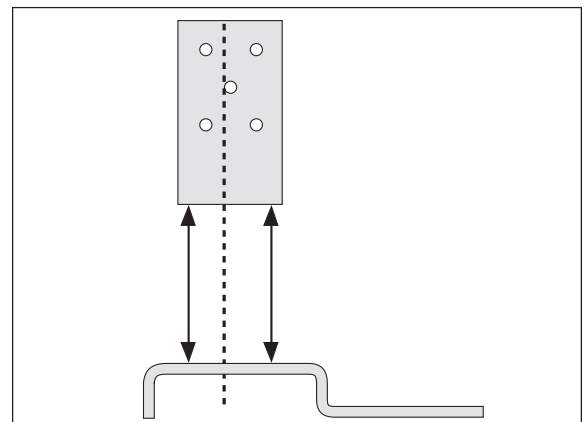
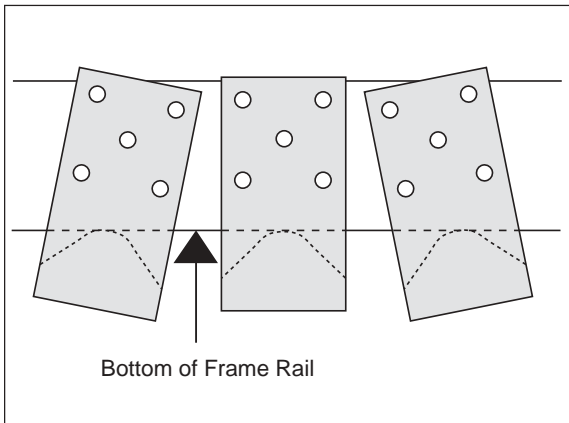
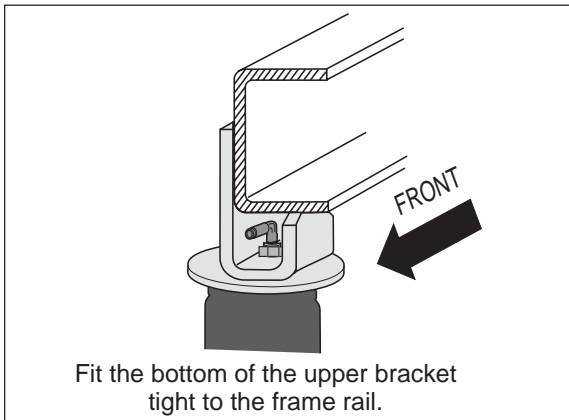

Figure 9
Figure 10
Figure 11
2. Thread the attached air fitting through the bottom of the J-bracket. Position the elbow towards the front or rear of vehicle depending on which direction will allow easier access for the air line (Figures 1 and 2). Slide the provided nylon nut over the air fitting and onto the threaded post. Tighten the nylon nut hand tight to secure the bracket (Figure 11).
1. To install the upper bracket, the upper bracket must be in line with the lower bracket and on the same angle as the leaf spring. The upper bracket must be parallel and perpendicular to the lower bracket (Figure 9). The upper bracket is designed so that it can be "tilted" for the proper angle (Figure 10). The bottom of the upper bracket must fit tight to the bottom of the frame rail (Figure 11).
4. Should it become necessary to raise the vehicle by the frame, make sure the system is at minimum pressure (5 p.s.i.) to reduce the tension on suspension/brake components. Check to see that the air spring rolls back down over the bottom piston after the vehicle is lowered (Figure 10). If sleeve fails to roll back down over the piston, add air pressure until sleeve "pops" back over piston (do not exceed 100 p.s.i.).